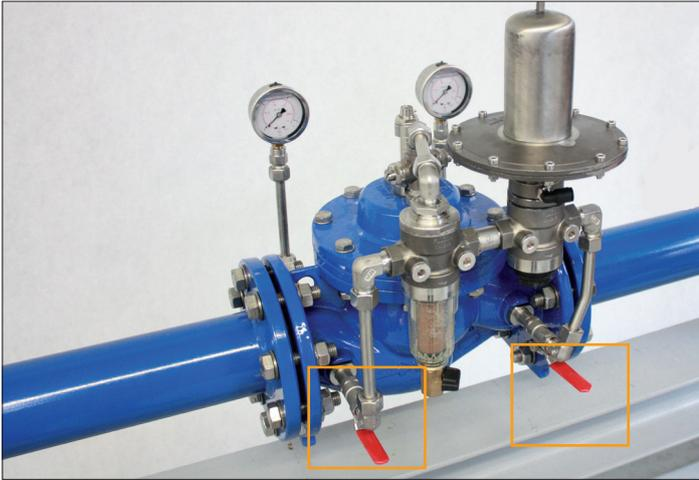

Figure 31: Open ball valves with manual levers running in parallel to the piping of the control circuit
- Put all ball valves at the control circuit into open position. The ball valves are open when the manual levers run in parallel to the piping of the control circuit (see Figure 31). Make sure that the ball valve at the filter and the venting valve are completely closed (exception: for varieties with automatic venting the ven-